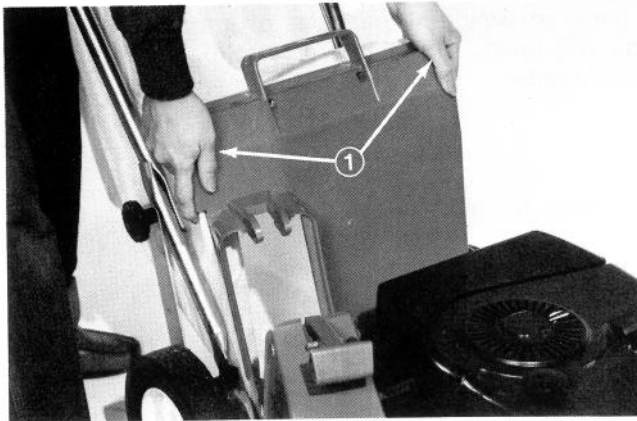

Figure 19
4. Hold front of bag and bag door together and slide door opening frame over projections on outside of mower rear discharge chute (Fig. 19). Check to insure door is forward of projections in rear of discharge chute and bag door is fully down on top of housing.
6. Reposition rear handle in the highest notch in which it will easily fit (Fig. 19).